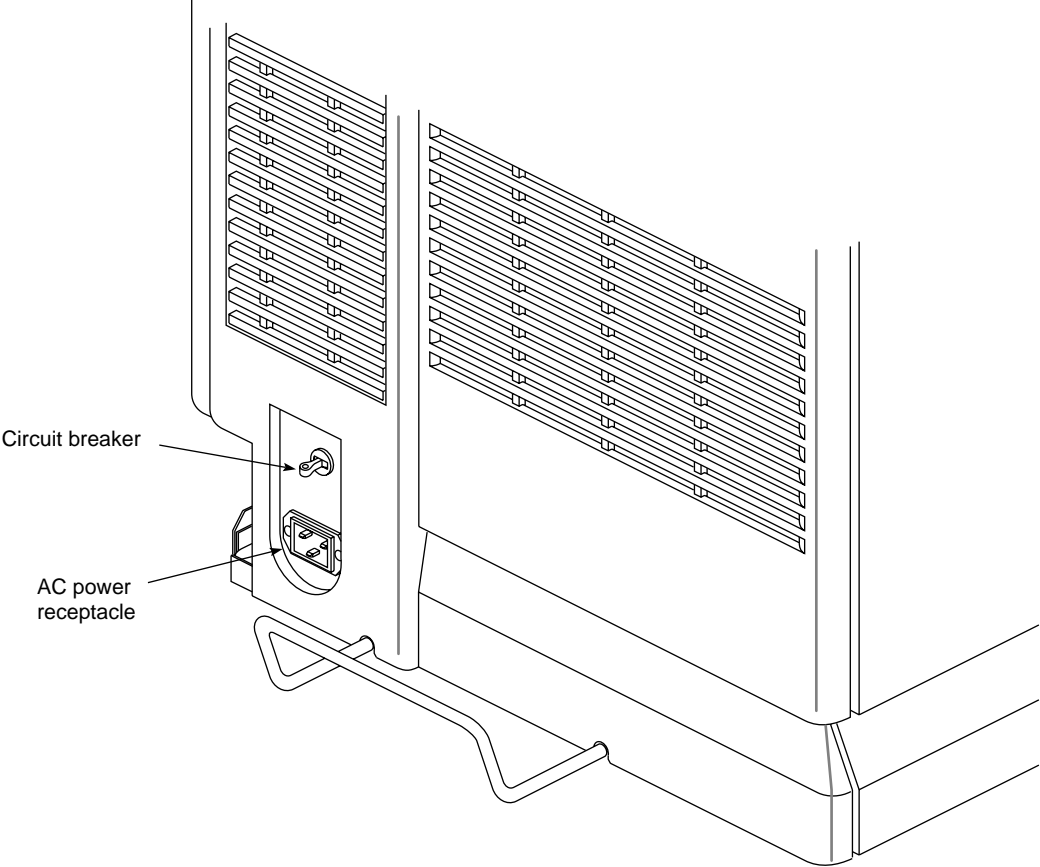

Figure 2-8 Power Receptacle and Circuit Breaker on Rear Panel
AC voltage feeds into a power receptacle and circuit breaker assembly located on the lower left rear panel of the Challenge deskside system. The circuit breaker switch controls the main power supply to the chassis and provides alternating current (AC) circuit protection. The power receptacle and circuit breaker are shown in Figure 2-8.